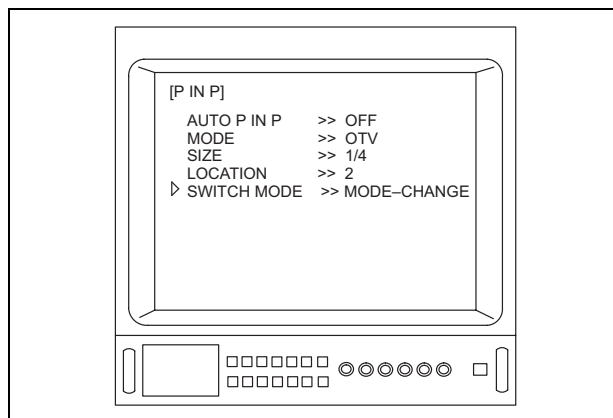

Figure 5.116
6. Depress the menu switches “” or “”, or the “” key on the keyboard to move the arrow “” to “SWITCH MODE” (see Figure 5.116).
Depending upon the OTV-S7V's settings, the menus shown in Figures 5.116 and/or 5.117 may appear different from those displayed on the video monitor.